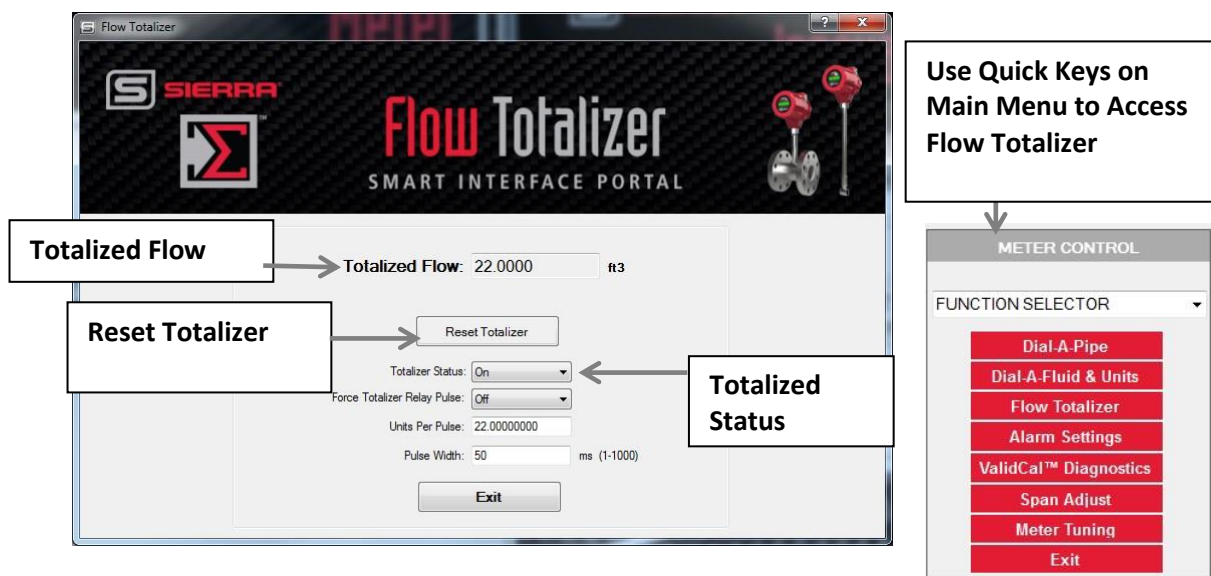

Figure 10. Flow Totalizer Main Screen
To Use the Flow Totalizer (See Figure 10):
- 1) Click the “Flow Totalizer” quick key in the “Meter Control” section. See Figure 10.
In this example (See Figure 10):